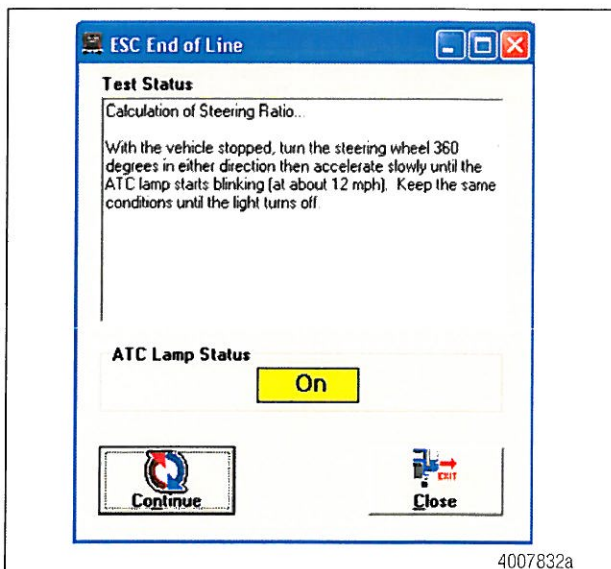

Figure 22
7. A message will appear after the "straight driving" is complete. Carefully read and follow the instructions in the message box. Start driving in a circle with the steering wheel rotated 360 degrees. No keyboard input is required. Figure 22.